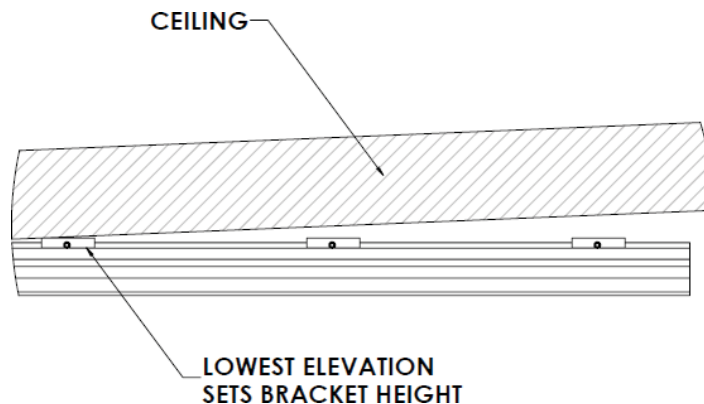

Figure 81: **Fixed Gate Track Bracket Height Set at Lowest Level of the Lower Ceiling**
- a. Set the ceiling bracket height for the fixed gate track at the lowest level of the lower ceiling (see Figure 81).
- For super track systems, project the line for the X/Y gantry bracket height 4 1/4” above the fixed gate track brackets (see Figure 81).
- For TrackPlus systems, project the line for the X/Y gantry bracket height 7 3/16” above the fixed gate track brackets (see Figure 81).